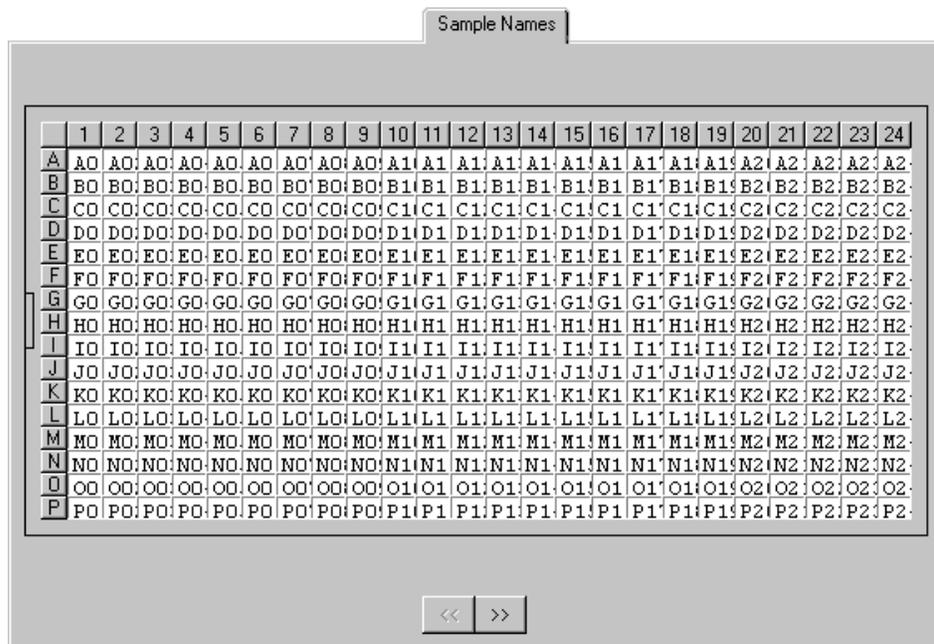

Figure 6-3. The Sample Names tab of the Plate Setup window for sequencing.
- Sample Names tab (figure 6-3)
Sample Names (figure 6-3)	<p>You can specify one sample name for each capillary. If no sample names are provided, the software uses the well IDs as the .rsd file names, for example, A01.rsd. If sample names are provided, the software uses the sample names as the .rsd file names (default). The Sample Names tab also allows you to specify unused capillaries.</p>
- In the **Sample Names** tab (figure 6-3), type or edit the sample names. If no sample names are provided, the software uses the well ID as the sample name. For example, A01 is the sample name for well A01.